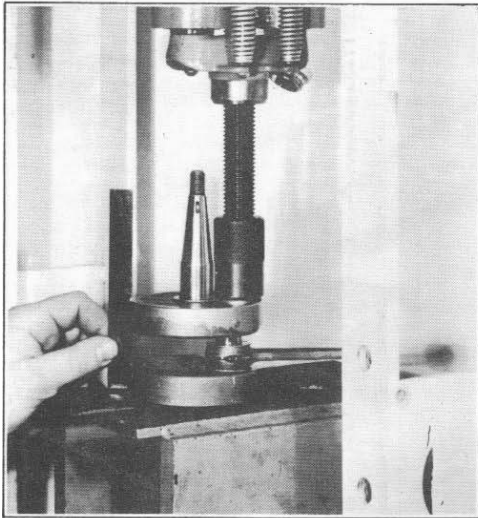

Figure 3.21A. Aligning Flywheels
Position and align both flywheels as accurately as possible using a straightedge such as a metal ruler as shown in Figure 3.21A. Using press, just start loose crankshaft flywheel onto crankpin (1).